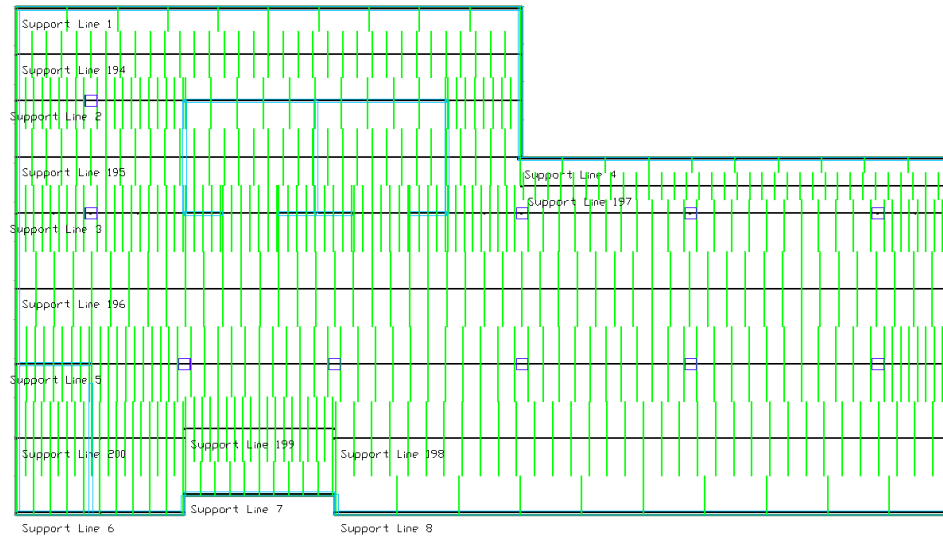

Figure 6.8-9 - Support Lines and Design Sections Results in X-direction
- **Figures 6.8-9 and 6.8-10** shows support line example results for the graphical code check.